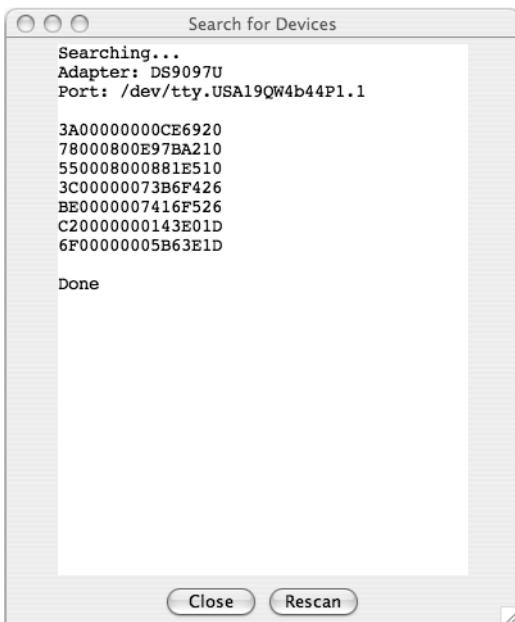

FIGURE B-2: Finding your 1-Wire devices.
14. The Preferences 1-Wire Devices tab is where the 1-Wire weather sensor serial numbers are entered. If you already know the serial numbers, you can enter them directly. If you need to search your 1-Wire bus, click the Find Devices button to display a dialog that will show all devices found on the selected serial port as shown in Figure B-2. Although there isn't a menu, you can still copy and paste from the search dialog to the preferences window using the standard copy and paste keyboard shortcuts. If you don't have a particular sensor, leave the field all (16) zeros to disable that sensor. ETWS also supports the AAG TAI8570 Pressure Sensor. Enter the TAI8570's reader address in the Pressure Sensor field and the writer in the TAI8571 Writer Device field.